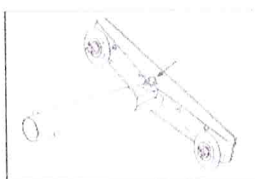

Figure 7
- A. The Speed Roller Tail Block is equipped with wheels to let you glide the tail block down the wall faster and easier! (see figure 7.)